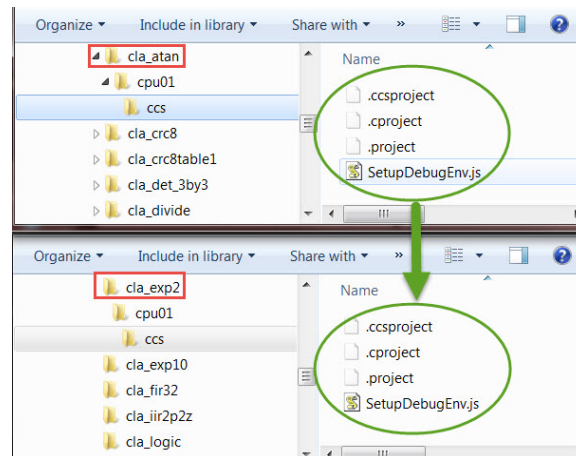

Figure 4.4: Creating a new project from existing examples
- Rename all files **atan*.*** to **exp2*.***. (Notice the naming convention. All files have the test folder name as a prefix, see Fig. 4.4 below)